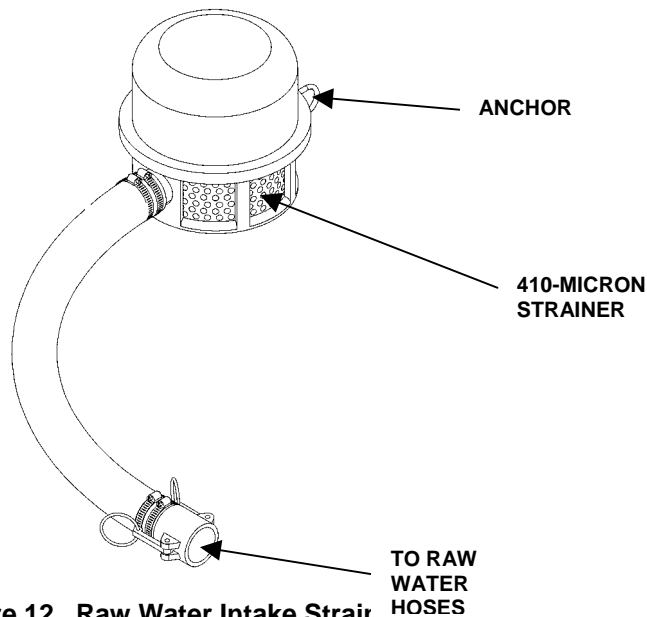

Figure 12. Raw Water Intake Strainer
2. Attach the raw water intake strainer (410 microns) to the raw water hoses (grey) on the end. See Figure 12.